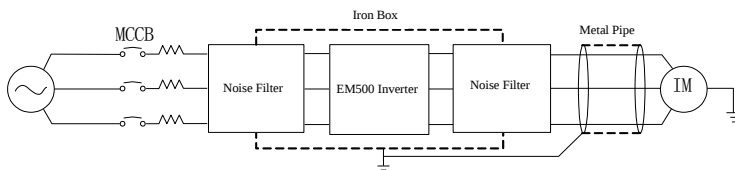

Figure 3–10 Countermeasures Against RF Interference
The internal main circuit structure of EM500 is shown in Figure 3–3.
- Noise filter installation is installed on the output side is shown in Figure 3–8.
In addition to the installation of a noise filter, the method of wiring all output cable into grounded metal pipe can be adopted to suppress the inductive interference on the output side. The distance between output cable and signal line shall be greater than 30 cm and the inductive interference decreases substantially, as shown in Figure 3–9.
RF interference can be produced by input cable, output cable and inverter and reduced by installing a noise filter on both input and output sides and covering inverter with an iron box. See Figure 3–10 for detail.
- Do not allow the grounding cable to form a circuit when two or more inverters are used. Correct and incorrect grounding methods are shown in Figure 3–11.
See Figure 3–12 for control circuit terminal block.